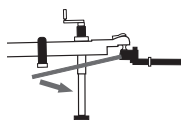

Figure 34
5. With the tension off the spring arms, remove the Snap L-pins and slide the spring arms off the L-bracket. (Figure 34)